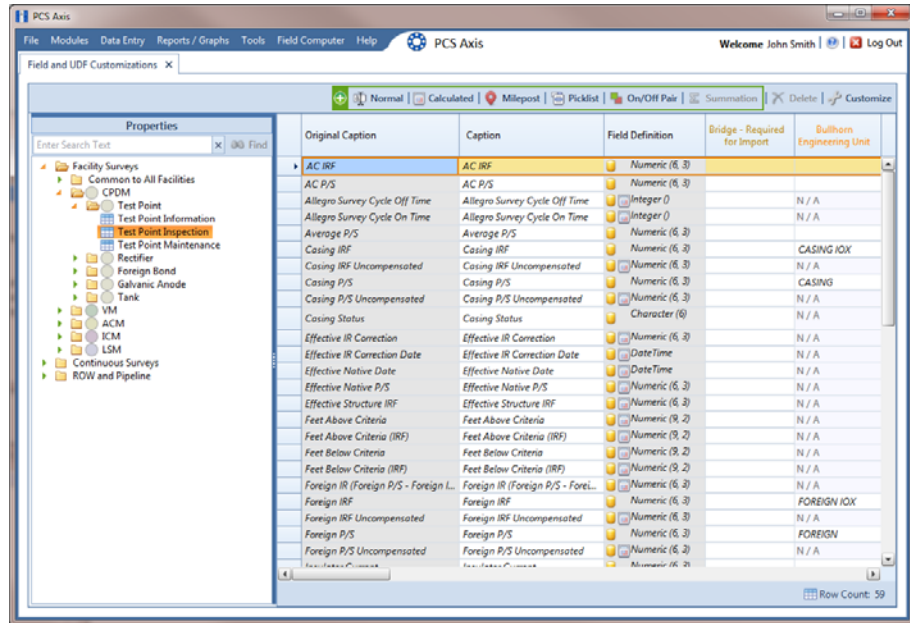

Figure 3-38. Field and UDF Customizations
- 3 Select an item in the *Properties* panel that includes the data entry grid you want to add a UDF. For example, double-click **Facility Surveys > CPDM > Test Point > Test Point Inspection** to display a grid with fields and property settings related to the *Test Point Inspection* data entry grid (Figure 3-38).
- 8 Click a toggle button  to open a field category, such as *Test Point Inspection Fields* shown in Figure 3-38, page 84. Double-click a field in the list of fields to add it in the *Expression* field. Define the UDF using the operator and functions buttons.